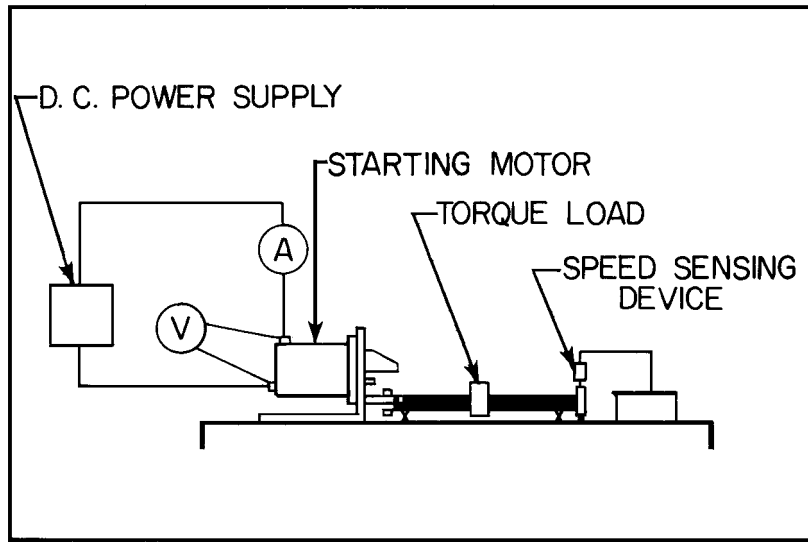

FIGURE 1—TYPICAL TEST SET-UP FOR STARTING MOTORS
3. **Testing Procedure**—The motor shall be mounted in a test stand as shown in Figure 1. For larger starting motors, the torque may be measured directly at the motor axis with a special test end frame because of torque limitation of test equipment. The torque measurement may be recorded and should be identified on the performance curve as either a frame reaction at the motor axis or at the torque loading point shown in Figure 1.